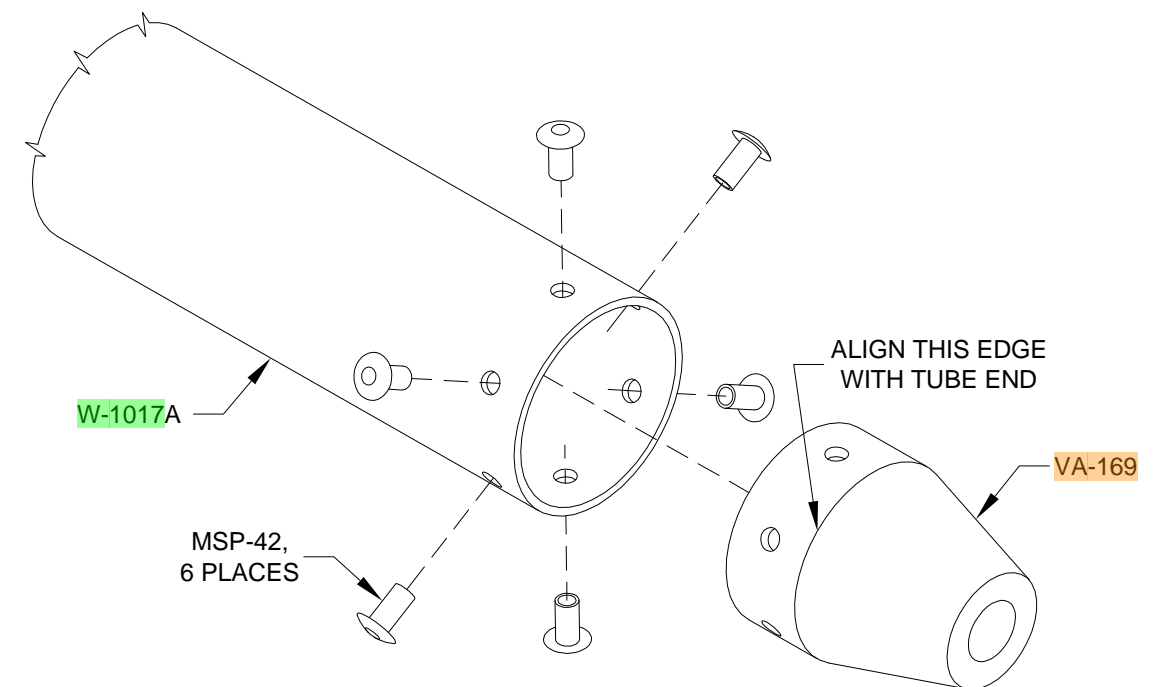

FIGURE 2:
Step 3: Insert a **VA-169** Threaded Rod End into the end of one of the **W-1017A** Torque Tube to Bellcrank Pushrods. Proper engagement of the threaded rod end in the torque tube to bellcrank pushrod is when the end of the tube coincides with the edge of the taper in the threaded rod end. See Figure 2.
Permanently install the threaded rod ends to the torque tube to bellcrank pushrods using the rivets called-out in Figure 2.